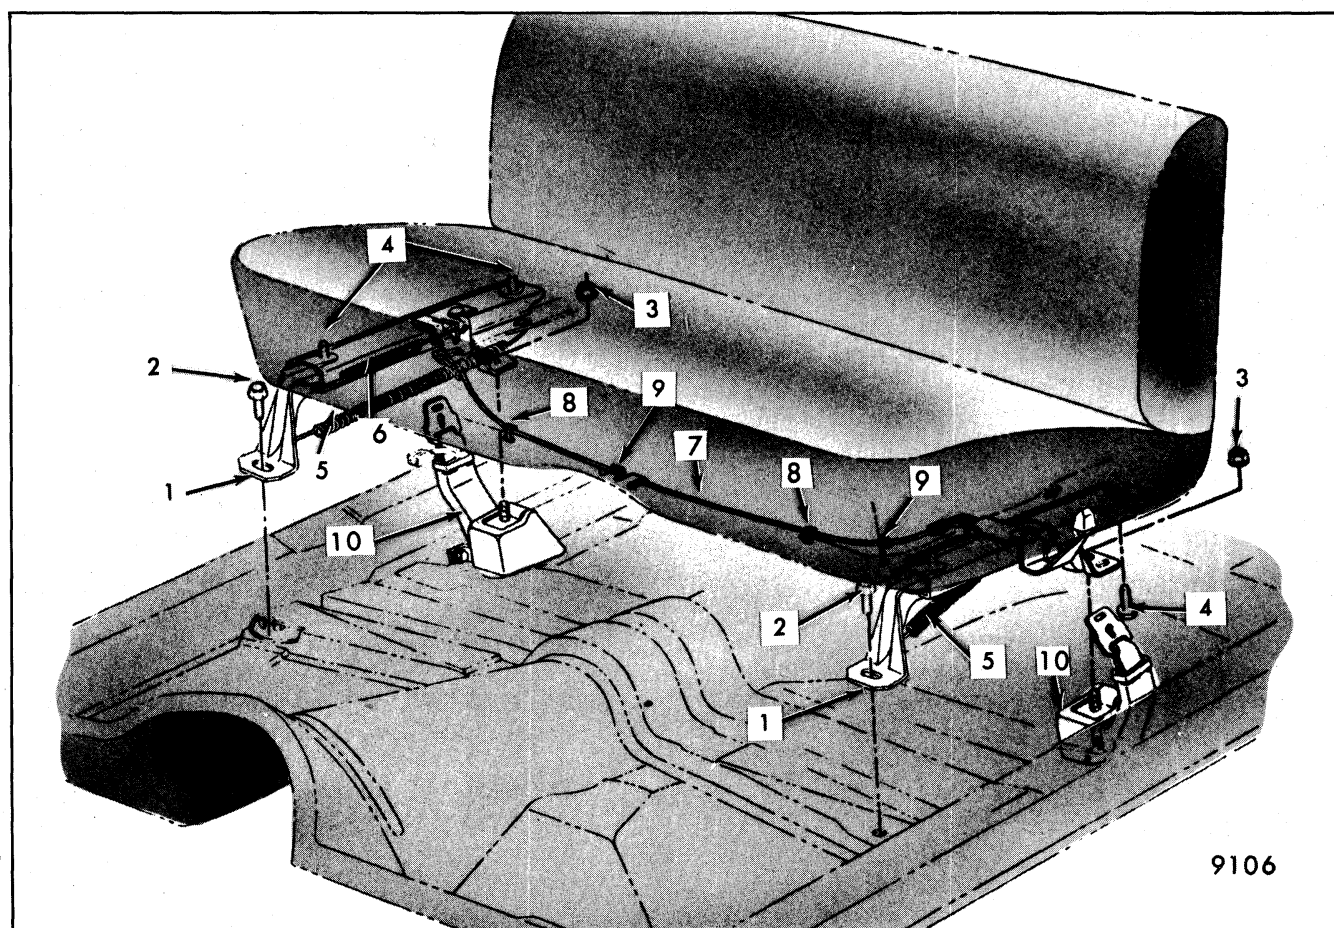

Fig. 9-8-"A" Body Manually Operated Full Width Seat and Adjusters
adjacent holes (see Fig. 9-8 or 9-9). This adjustment can be used to correct the following conditions:
1. Fig. 9-8-"A" Body Manually Operated Full Width Seat
1. Fig. 9-8-"A" Body Manually Operated Full Width Seat and Adjusters
do not lock or unlock satisfactorily when control handle is operated, disengage locking wire retainer from hole in seat bottom frame and engage retainer in one of adjacent holes to obtain proper tension in wire (see Fig. 9-8 or 9-9).